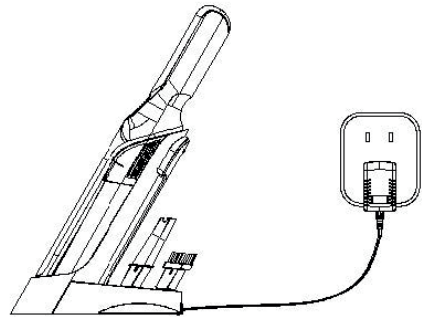
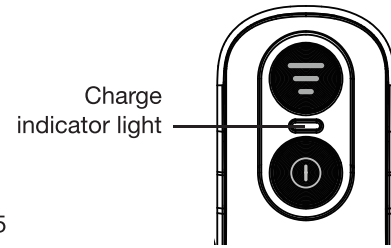

Fig. 5
Fig. 6
- Place the vacuum cleaner on the charging base (**Figure 5**). When the charging connectors on the vacuum cleaner are in contact with the charging connectors on the base, the charge indicator light will flash (**Figure 6**), which means that the vacuum cleaner is recharging. When the indicator light is green, this means that the appliance is fully charged.